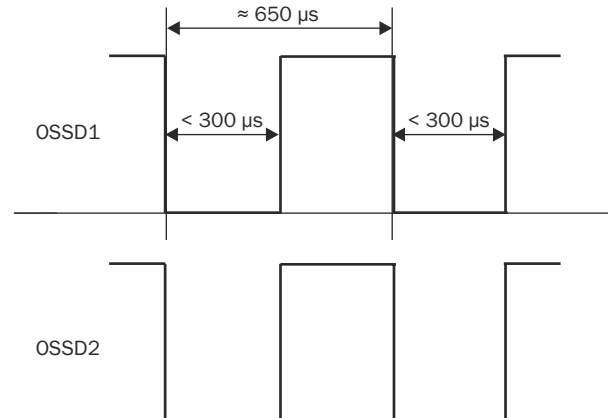
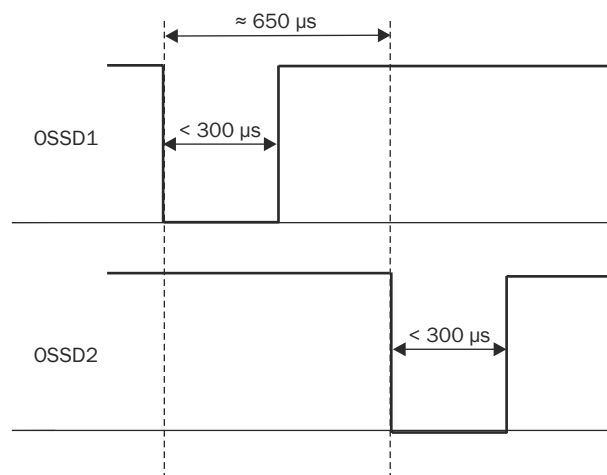
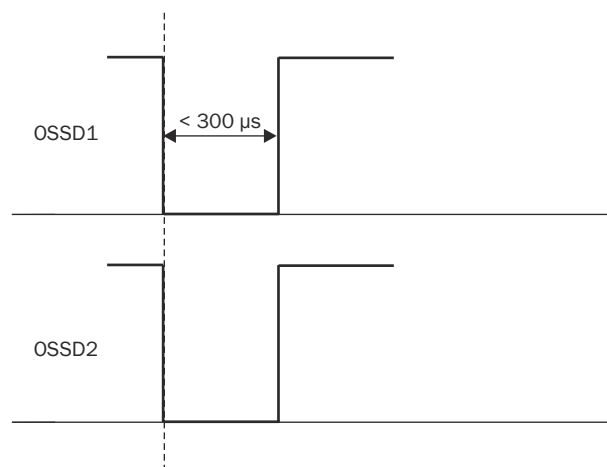

Figure 75: Voltage test after switching on the OSSDs
Figure 76: Shut-down test
Figure 77: Voltage test
After a further half basic response time of the device there is a shut-down test ②, 120 ms later a further voltage test ③. Then the device performs a shut-down test and a voltage test alternately at an interval of 120 ms. Pulse duration for the individual tests, see figure 75, page 117, see figure 76, page 118, see figure 77, page 118.